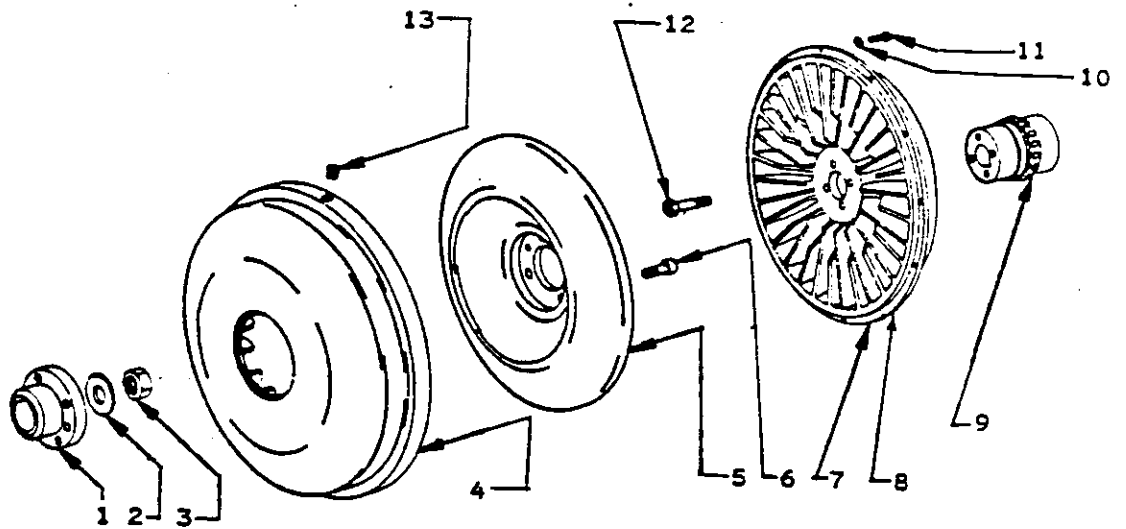

Figure 7. Fluid Coupling Assembly
4. Check to see that the two bleed orifices (13, Fig. 7) in coupling cover rim are not clogged. Using pins, carefully determine that the orifice diameters are as follows: